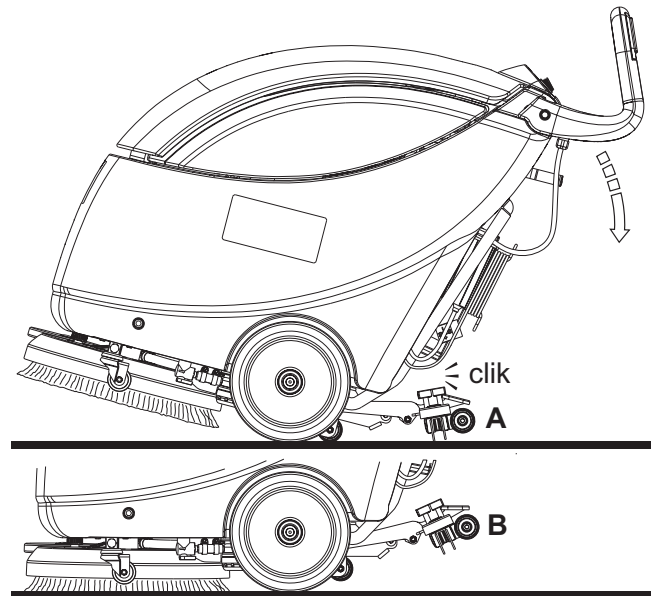

Figure 3
1. Grasp the handlebar (2), lower it until the rear wheel (7) touches the floor (A, Fig. 3) then engage the squeegee in lifted position (B).